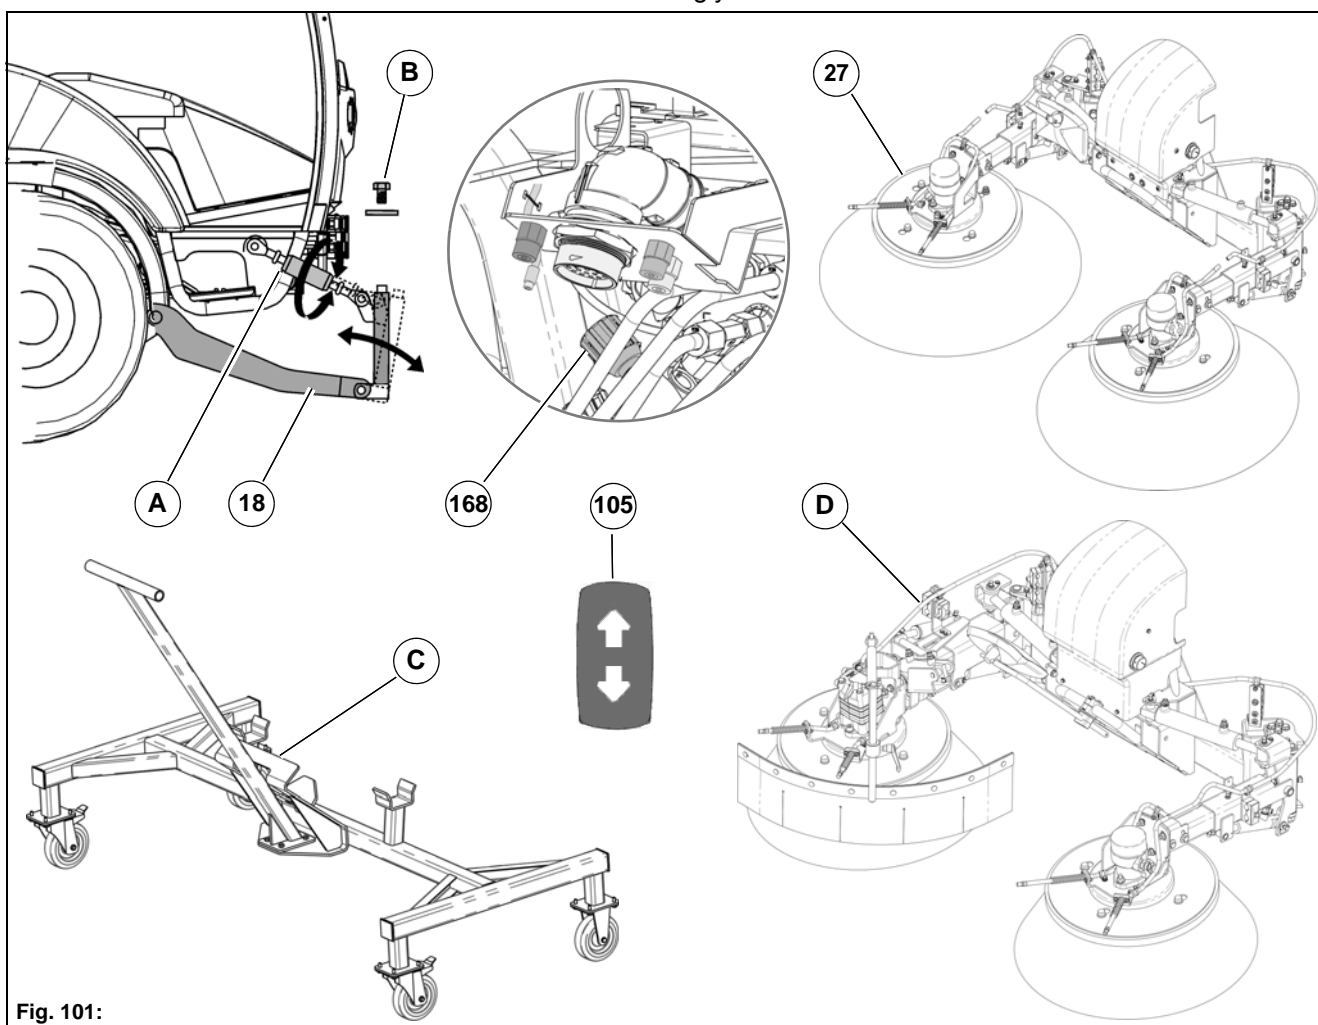

Fig. 101:
2. Use the upper link **Fig. 101-A** to adjust the lowered front tool carrier **Fig. 101-18** vertically.
4. Remove the M16 fastening bolt and the washer **Fig. 101-B** of the front tool carrier.
5. Use the trolley **Fig. 101-C** (option) to align the sweeping unit **Fig. 101-27** centrally and in alignment with the front tool carrier.
- With the option 'sweeping unit with weed brush' **Fig. 101-D**, carry out installation accordingly.